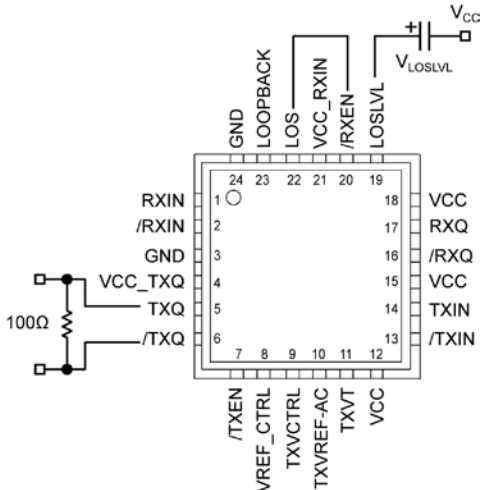

Figure 2a. Voltage Source Implementation
The SY58620L features a chatter-free Loss-of-Signal (LOS) TTL compatible output with an internal 4.75kΩ pull-up resistor. LOS circuitry monitors the input receiver signal and asserts a signal when the input signal falls below the threshold set by the programmable LOS level set pin (LOSLVL). When the amplitude of the receiver input signal falls below the threshold, LOS is asserted HIGH with a response time of ~0.2μs. LOS can be fed into /RXEN to maintain output stability by disabling the output during a Loss-of-Signal condition. Figure 2a and 2b shows the LOS connection to /RXEN. When /RXEN is HIGH, the output signal RXQ is held LOW and /RXQ is held HIGH. Typically, 2dB of LOS hysteresis is adequate to prevent the receiver output from chattering. LOS operation is optimized for data rates ≥622Mbps with an input receiver amplitude of at least 10mV (20mV_{PP}). Due to the long time constant in slower data rates below 622Mbps, the SY58620L LOS function does not guarantee chatter-free operation for low amplitude signals.
LOS detection trip-point by setting up a voltage divider between V_{CC} and V_{REF} (an internal voltage source set at $V_{CC}-1.3V$), since there is a $2.8k\Omega$ internal resistor connected between $LOSLVL$ and V_{REF} . The input voltage range of $LOSLVL$ ranges from V_{CC} to V_{REF} . See the "Functional Block Diagram" section and Figures 2a and 2b, to see how R_{LOSLVL} sets up a voltage divider between V_{CC} and V_{REF} . Refer to the "LOS Output DC Electrical Characteristics" table and "Typical Operating Characteristics" section to see how different R_{LOSLVL} values affect LOS sensitivity.
- Connecting the input $/RXEN$ to the LOS output as shown in Figures 2a and 2b, maintains receiver output stability under a Loss-of-Signal condition